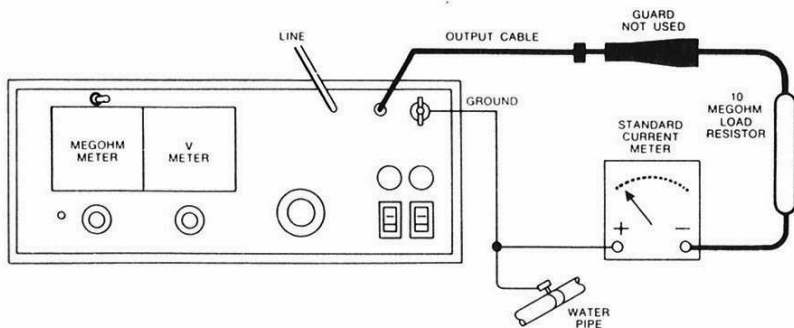

Figure 17: Connections for Calibration of the Megohmmeter.
1. Make connections as shown in Figure 17 using 5 μA range on standard meter and 100-megohm resistor.